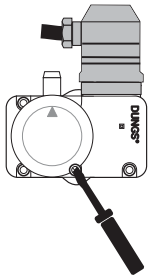
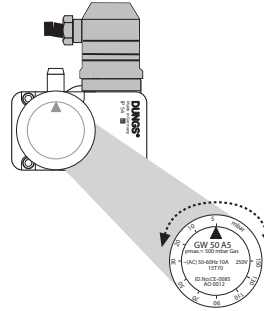

Figure 4.2 Unscrewing the hood
Figure 4.3 Pressure setting
7. Unscrew the hood covering the dial and make sure that the low pressure switch is set at 18 mbar. If necessary, set the pressure using the dial, see *Figure 4.2* and *Figure 4.3*.